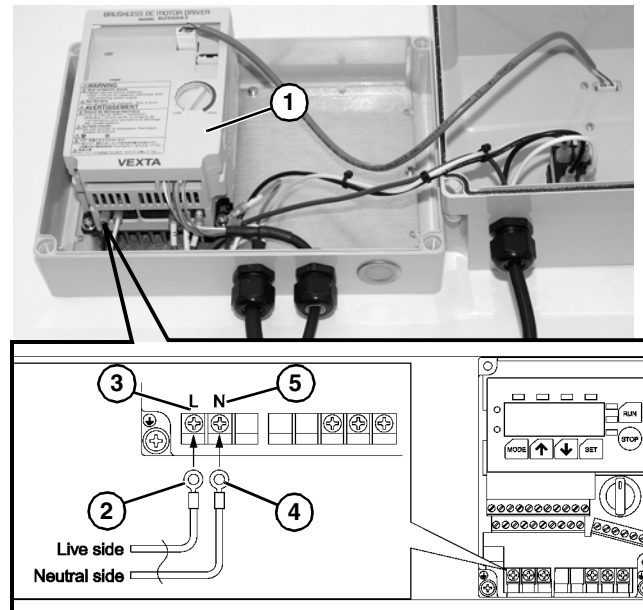

Figure 9
2. Remove controller cover (Figure 9, item 1).
3. Connect black (live side) (Figure 9, item 2) to L (Figure 9, item 3) and white (neutral side) (Figure 9, item 3) to N (Figure 9, item 5) wires on controller.